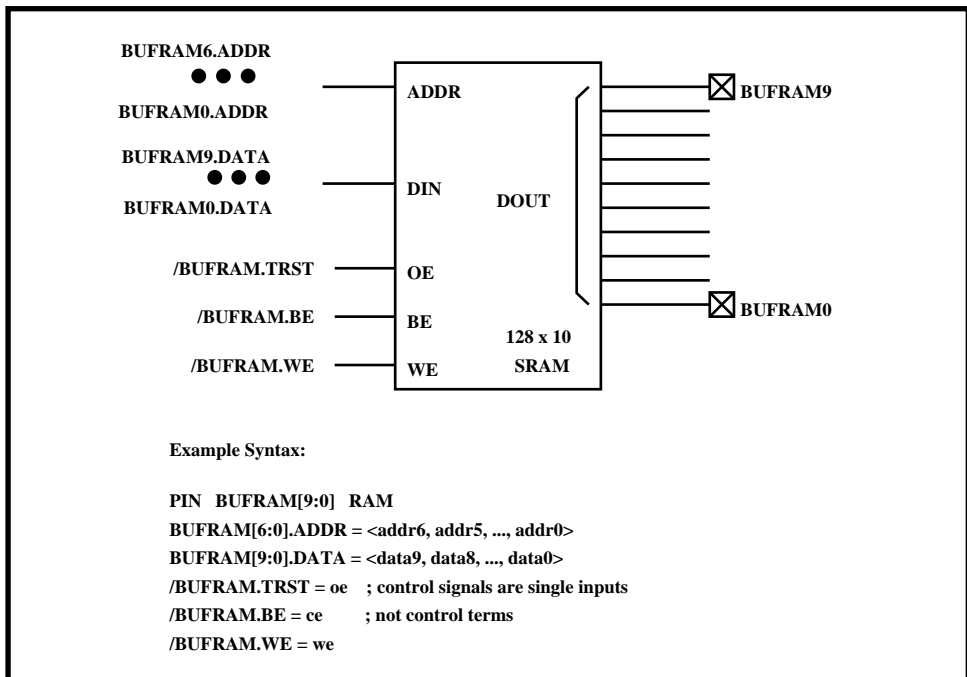

Figure 4-22 Signal Grouping Example
Each CFB in FLEXlogic devices can be configured as a block of 128x10 SRAM instead of a PLD block. An SRAM block may have up to ten outputs, three active-low² control inputs (block enable, write enable, and output enable), ten data inputs, and seven address control lines. Care must be taken when declaring SRAM control signals as nodes. In order for compilation to function properly, the *Automatic Inversion feature* in the Compile Options submenu must be turned off (i.e., set to NO). Then, when the compile is in progress you should answer no to auto-inversion only on the SRAM signals. Also, (S)RAM names should not end with a numeric character. Vectored signals will be processed incorrectly and the compile will abnormally terminate if this rule is not adhered to. Figure 4-22, Signal Grouping Example, is an example of the .PDS specification of a RAM block.